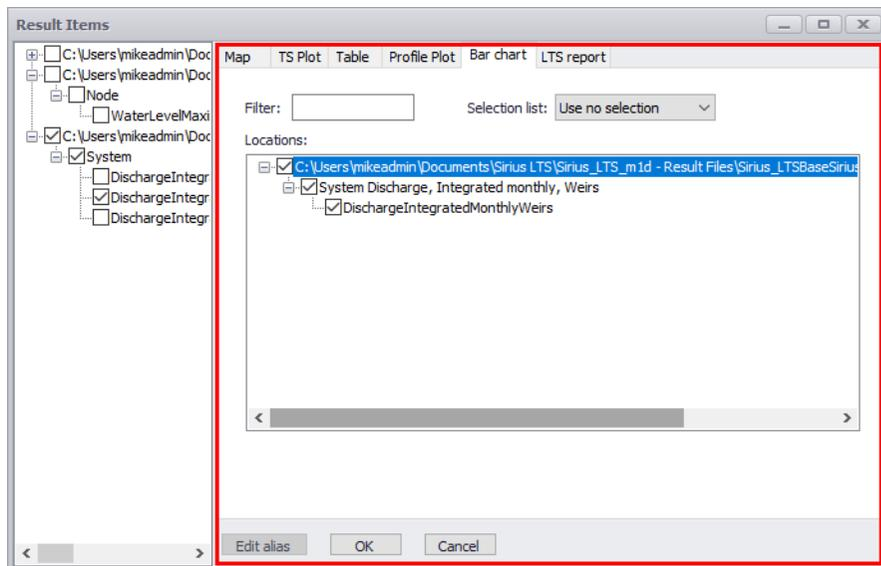

Figure 19.59 The Bar Chart tab on the Result Items dialog
- Access the ‘Bar Chart’ tab on the ‘Result Items’ dialog (Figure 19.59).
- Select the items and locations which shall be plotted on a bar chart (Figure 19.59). Note that it is not possible to customize data series labels (i.e. Edit alias) for bar charts, nor is it possible to edit existing bar charts.